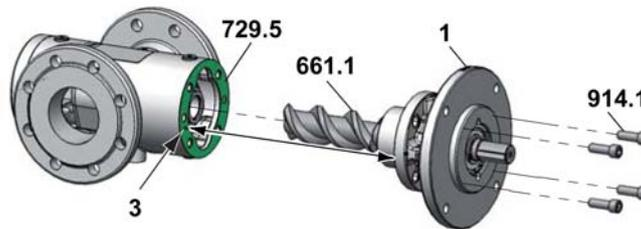

Fig. 19
7. Slide the main screw with premounted flange cover into the pump housing until the main screw engages into the idle screws. Take the position of the straight pin **3** into account and turn the main screw, see Fig. 19.